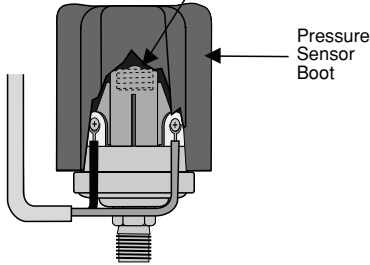

Figure 4A:
- 10A. Connect the other end of the pressure sensor cable with the two spade terminals to the pressure sensor. The connections are interchangeable (Figure 4A).
- a. Remove the rubber end-cap (Figure 4A).
- e. Cover the pressure sensor terminals with the rubber boot provided (Figure 4A).